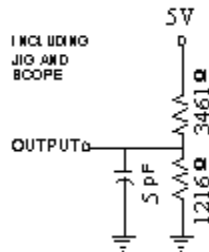

FIGURE 1B
6. Transition is measured ±500mV from steady state with CL = 5pF as shown in Figure 1B. The parameter is guaranteed but not 100% tested.
10. Transition is measured  $\pm 500mV$  from steady state with  $CL = 5pF$  as shown in Figure 1B. The parameter is guaranteed but not 100% tested.